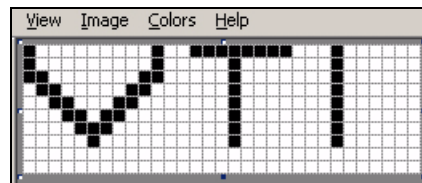

Figure 5-41: Logo Created on Microsoft Paint
- 5 Create the required logo on the page (see Figure 5-41).